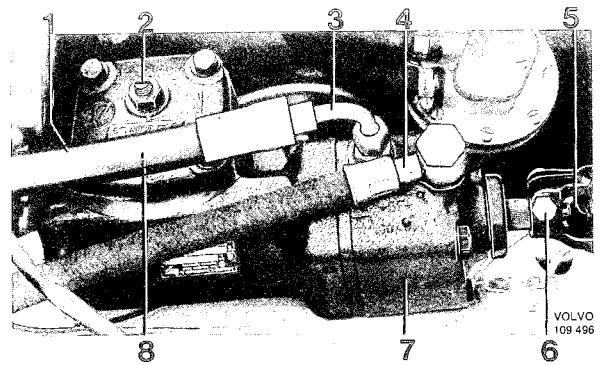
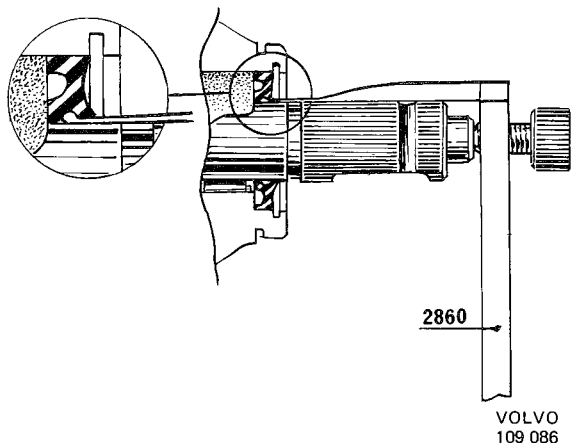

Fig. 6-59. Steering housing
Fig. 6-63. Removing sealing ring
Jack up the front end. Screw out the drain plug (2, Fig. 6-59). Turn the steering wheel to the left to the stop position. Remove the cover on the container. Start the engine and allow it to run max. 10 seconds until the oil is emptied out of the container and pump. Stop the engine and turn the steering wheel from the stop lock to stop lock until all the oil has run out.
4. Open the bleeder screw (8, Fig. 6-59)  $\frac{1}{2}$  – 1 turn. Close it when oil starts flowing out.
- c) Slacken the nut for the adjusting screw (4, Fig. 6-59).
1. Dismantle the flange device by removing the two nuts (9, Fig. 6-59) and the screws (9). Move the rubber disc and lower steering column section to the one side.
2. Mark up the location of the flange (7) on the control spindle. Slacken the clamping bolt (6) and pull off the flange.
4. Carefully apply tool 2860 to the sealing ring. Tighten the screw (Fig. 6-63). This also tightens the sealing ring. If the ring sticks in the snap ring groove, carefully turn the tool backwards and forwards.
4. Disconnect the oil lines (5 and 10, Fig. 6-59) from the steering housing after the connections have been cleaned. Slacken the clamping bolt (6).
5. Remove the retaining bolts (1) and pull the steering housing forward.
3. Fit the steering spindle in the flange of the lower steering column section. Fit and tighten the retaining bolts (1, Fig. 6-59). Tighten the clamping bolt (6). Check that the distance between the steering gear housing and the lower flange is  $7 \pm 5$  mm ( $0.28 \pm 0.20$ "). Connect up the oil lines. The longer delivery line should run in a curve backwards (see Fig. 6-44) and should be clamped.